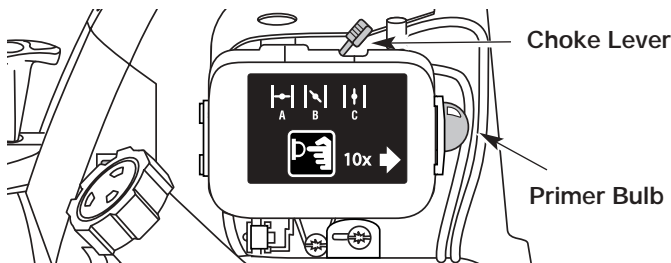

Figure 12
4. Place the choke lever in the **FULL** choke (A) |—| position. See Figure 12.
NOTE: Slide the choke lever directly above the appropriate symbol on filter cover decal. See Figure 12.
5. Fully press and release the primer bulb slowly 10 times until **FUEL IS VISIBLE IN THE PRIMER BULB**. If you can't see fuel in the bulb, press and release the bulb as many times as it takes before you can see fuel in it. See Figure 12.
7. With the unit in the starting position and the choke in the **FULL (A)** |—| position, pull the starter rope briskly 5 times. If the engine attempts to run before the fifth pull, proceed to step 8.
8. Move the choke lever to the **PARTIAL (B)** |—| position. See Figure 12.
- NOTE:** The engine will not run in the **FULL** choke (A) |—| position.
10. Move the choke lever to the **RUN (C)** |—| position and run at full throttle for 30 seconds.
2. Move the choke lever to the **PARTIAL (B)** |—| position. See Figure 12.
3. Fully press and release the primer bulb slowly 10 times until **FUEL IS VISIBLE IN THE PRIMER BULB**. If you can't see fuel in the bulb, press and release the bulb as many times as it takes before you can see fuel in it. See Figure 12.